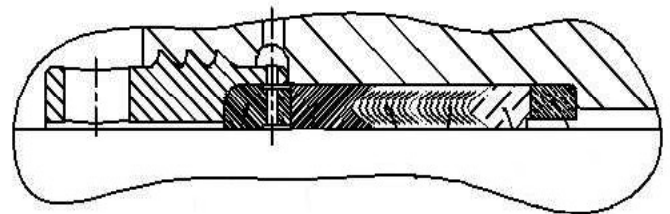

FIGURE 4-2 Typical Packing Assembly
10. Install the spacer, header ring, packing rings (2) and the lantern gland in the stuffing box with the packing lips toward the front of the fluid end. See FIGURE 4-2.